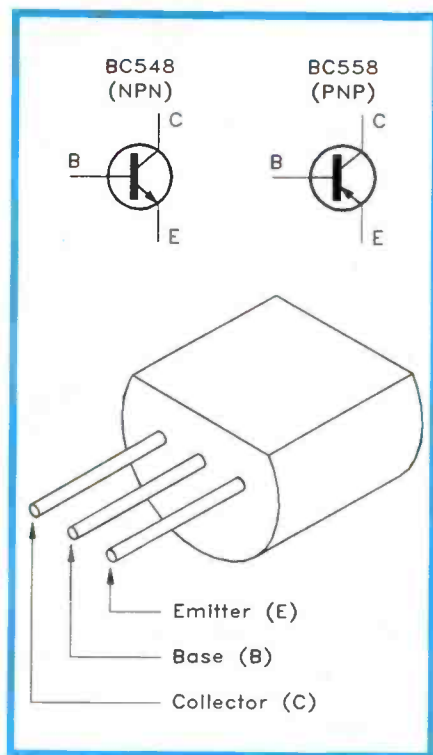

Figure 4. BC548/BC558 transistor circuit symbols and lead identification (TR1, TR2).
e) TR1 and TR2 should be fitted to the board next; these have a small black plastic body and three leadout wires. They are marked with their type numbers, which are 'BC548' in the case of TR1, and 'BC558' in the case of TR2. Other markings may also be present; you will have to get used to picking out the important markings on chips and transistors (and ignoring the others!). You must ensure that TR1 and TR2 are fitted to the board correctly. Figure 4 shows which lead is which for each, making this task easy. Note that TR1 and TR2 are different types of transistor (NPN and PNP; see Funtronics Project No.2, in the January 1992 issue of 'Electronics', for further details). This means that the unit will not work if they are swapped over.